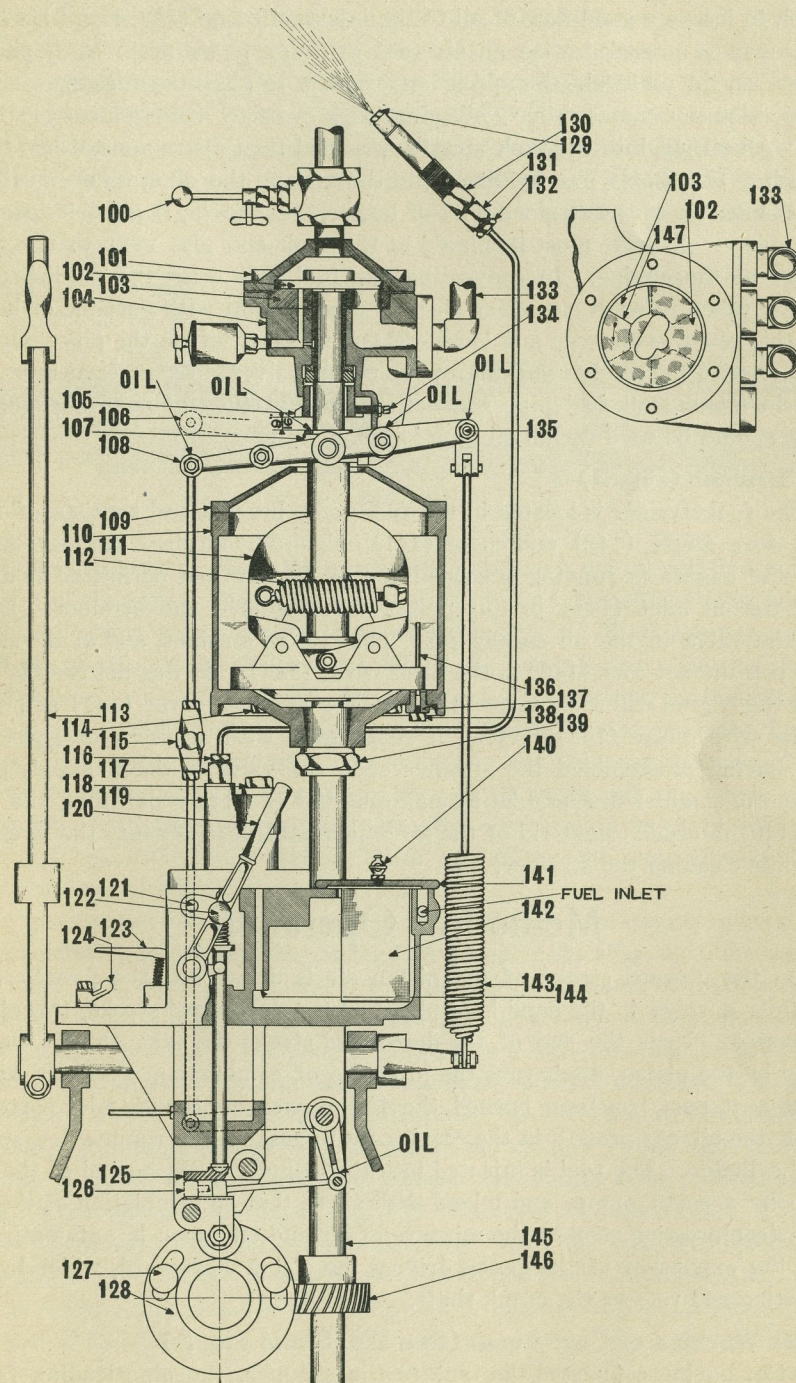
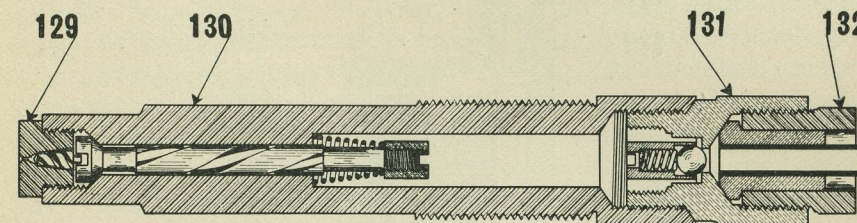
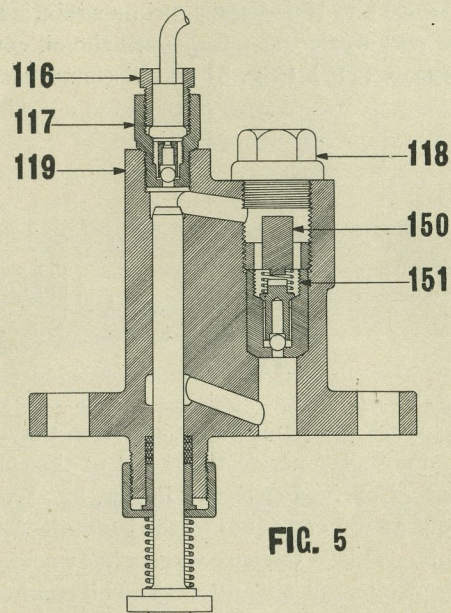

FIG. 3
FIG. 4
FIG. 5
enough to insure a good flow of oil to the injection pump (119; Fig. 3). The tank must be provided with an air vent in order to maintain atmospheric pressure on the oil level. Should it be necessary to place the fuel tank below the injection pump an auxiliary oil pump with overflow arrangement must be used. All oil put into the tank must be strained thru a strainer not less than 50 mesh. The supply pipe leading from the tank to the oil strainer must be of the same size as the strainer inlet or larger, and should, if possible, consist of one piece. A valve must be placed at the tank and also next to the fuel strainer at the engine. In connecting the fuel tank with the engine care must be taken to wash out every piece of pipe or joint with gasoline or kerosene; this removes all scale and loose matter, which if left in the pipes, would interfere with the proper working of the pump valves. Extra care must be taken in making all fuel pipe connections so that they do not leak; soap or shellac should be used for all oil pipe joints.
Fuel Strainer (Fig. 3)
Proper Working of Fuel Pump (See Fig. 3 and Fig. 5)
the pump (Fig. 3). Put the lever (120) into the position shown. With the handle (123) work the pump plunger up and down until the oil comes out at the discharge valve (117). Should the pump refuse to work, unscrew the discharge valve (117), prime the pump and hold your thumb over the outlet. Work the pump as before and if necessary, prime again. Put discharge valve (117), back in place and work the pump until the oil comes out at the top. Connect discharge pipe at (116) (Fig. 5) and disconnect it at (132) (Fig. 4)
at the fuel injector. Work the pump again and soon the oil will flow over at the end of the pipe. Screw the nozzle (130) out of the cylinder head and put it into a position pointing upward as shown in Fig. 3. Work the pump again until the oil squirts out at the end (129) of the fuel injector. Be sure that all air is pumped out of it. This is the case when after working the handle (123) with a jerk, the flow of oil stops abruptly. The oil coming from the fuel injector must be in the form of a very fine spray and no heavy core should be in the center of the spray. If a heavy core exists clean out the whole nozzle thoroughly with gasoline especially the small spiral in the tip (219), also make sure that the valve holds tight. These operations are necessary on all the pumps in case of a multiple cylinder engine.
One essential feature of the engine, which for the best results must always be in perfect mechanical order, is the fuel pump (119) (Fig. 5). To examine the pump unscrew the pipe gland (116) and hold your thumb over the opening, or better, screw a plug into the opening. If you are able to move the plunger quite easily by means of the handle (123), it is a sign that one or all of the pump valves are leaky, or else there is air in the pump. If there is no air in the pump, and if the valves are tight, the oil has no other way to escape except along the pump plunger and therefore the plunger moves hard and only slowly. If it becomes necessary to remove the suction valve proceed as follows: (The pump is shown in Fig. 5). Unscrew the plug (118). Then by means of the special socket wrench furnished with the engine, unscrew the plug (150). Turn the socket wrench around and screw its end into the valve seat (151) and pull it out of the pump body. Be sure and clean all the parts thoroughly and convince yourself that the valve seats are tight before you reassemble the parts. Be sure and screw all the plugs down tight.
To Time the Oil Injection (See Fig. 3)
(See Fig. 3)
To Adjust the Governor (Fig. 3)
(Fig. 3)
Air Starting Valve (Fig. 3)
The air starter disc is driven by spiral gears. Two teeth of the crank shaft gear, and one tooth of the vertical shaft gear, carry center punch marks. If the gears are taken apart, make sure, in reassembling, that the marked tooth of the vertical shaft gear goes between the two marked teeth of the crank shaft gear. These gears run in oil but nevertheless they will wear slightly in time. This necessitates an adjustment of the air starter valve. It is important that the disc (102), which has one slot, and is driven by the vertical shaft, begins to open up one of the slots in the stationary disc (103) when the piston in the cylinder to which the stationary slot is connected is exactly at its upper dead center. To time the air starter valve properly it is best to set the piston next to the reverse gear in its upper dead center. This is done by turning the flywheel until a $\frac{1}{4}$ " hole drilled at the edge of the flywheel rim is directly opposite of a $\frac{1}{4}$ " hole drilled into the side of the air compressor eccentric rod which faces the flywheel. If this is done, remove the air distributor cover (101) and move the stationary disc (103) around so that the edge (147) of the rotating disc (102) is just uncovering the port in the stationary disc (103) as shown in Fig. 3. Fig. 3 shows the arrangement for a three cylinder engine but the same rules apply for engines with more or less than three cylinders.
Make sure that the crank case has been drained by the drain cocks provided for this purpose. Keep these drain cocks closed while the engine is running. Assuming that the force feed oiler tank has been filled, disconnect the rod which connects the ratchet arm to the air compressor eccentric rod and move the ratchet by hand long enough to fill all the pipes leading from the oiler to the bearings and cylinder. Neglecting this may result in a hot bearing and serious damage right from the start. Replace the ratchet rod and oil both ends. When the oiler is provided with an auxiliary hand crank it is not necessary to disconnect ratchet drive to fill oil pipes by hand. This operation is only necessary when the engine is started the first time, or if it has been standing idle for a few days. Oil all the governor links and rods where the word "oil" is marked on Fig. 3.
Set the speed control lever (113) in its starting position, as far forward (toward the cylinder) as it will move. Pump about two strokes of fuel into each cylinder by means of the handle (123). Be sure that the lever (120) stands in the position shown in Fig. 3.
Now open air valve (100), Fig. 3, and keep it open until the engine fires and speeds up. Shut off the air and pull the speed control lever (113) slightly backwards to reduce the speed.
Pull the lever (120) far enough so that the spring plunger (122) jumps into the hole (121). Perform this operation slowly. If, in case of a multiple cylinder engine it is desired to shut off only one cylinder, the pump plunger may be raised up by means of the handle (123), and held so by means of the catch (124), Fig. 3. This, for instance, should be done if one of the combustion chamber caps gets cold. It would be unwise to flood the cylinder with oil while the cap is heated.